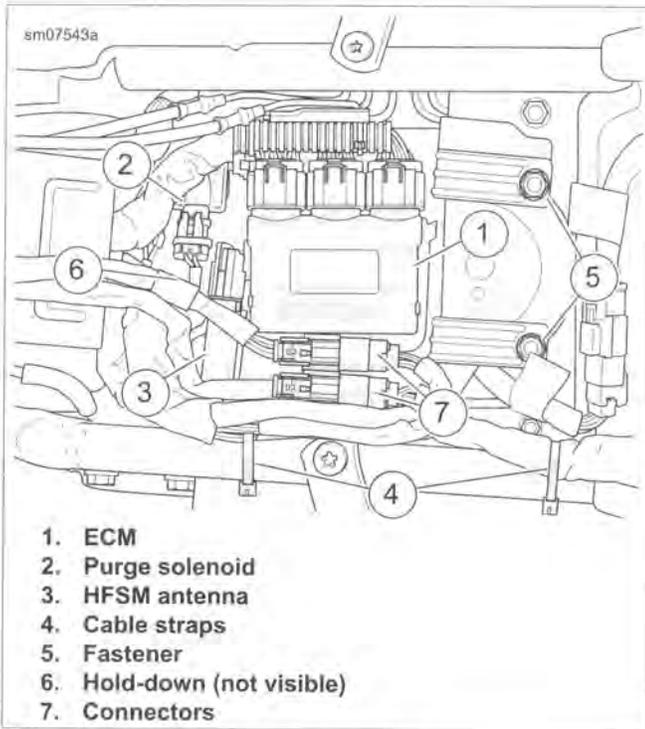

Figure 1-45. Top Caddy
2. See Figure 1-45. Release ECM (1) from top caddy. Move out of the way.
3. If present, move purge solenoid (2) forward to release from top caddy. Release HFSSM antenna (3) from top caddy and move out of the way.
4. Release connectors (7) from anchors on top caddy.
5. Remove fasteners (5).
6. Cut cable straps (4). Move harnesses to allow more clearance for the top caddy.
6. See Figure 1-45. Place top caddy into position and engage latch on hold-down bracket.
7. Fasten top caddy to frame crossmember with screws (5). Tighten to 72-96 in-lbs (8.1-10.9 Nm).
8. If equipped, engage HFSSM antenna (3) and purge solenoid (2) on top caddy. Verify that all other connectors and harnesses are routed below the purge solenoid mounting tongue.
9. Secure connectors (7) to anchors on top caddy.
10. Latch ECM (1) into place on top caddy.
11. Secure harnesses to frame with cable straps (4).